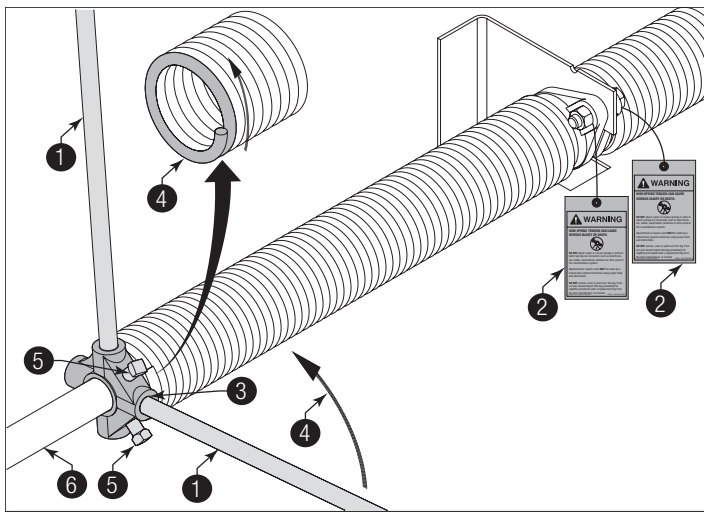

Figure 58
**PRIOR TO WINDING THE SPRING, ENSURE YOU'RE WINDING IN THE PROPER DIRECTION AS SHOWN IN FIGURE 58. OTHERWISE THE SPRING FITTING MAY RELEASE FROM SPRING AND RESULT IN SEVERE OR FATAL INJURY.**